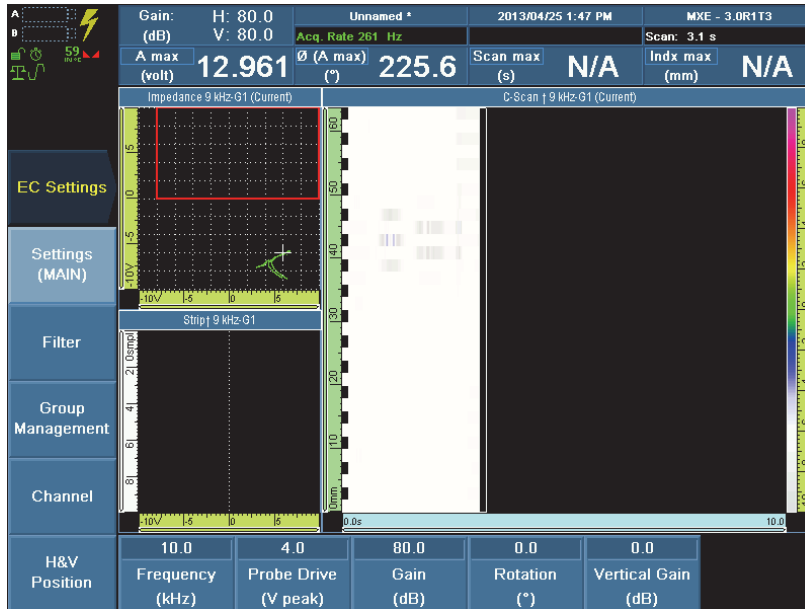

Figure 9-1 Configuring the Frequency parameter for mixing frequency 1
- c) Select **Frequency (kHz)**, set the value to provide the best detection for the sub-surface cracks, and then press the Accept key to confirm. In this example, the **Frequency (kHz)** value is set to 10.0 (see Figure 9-1 on page 142).